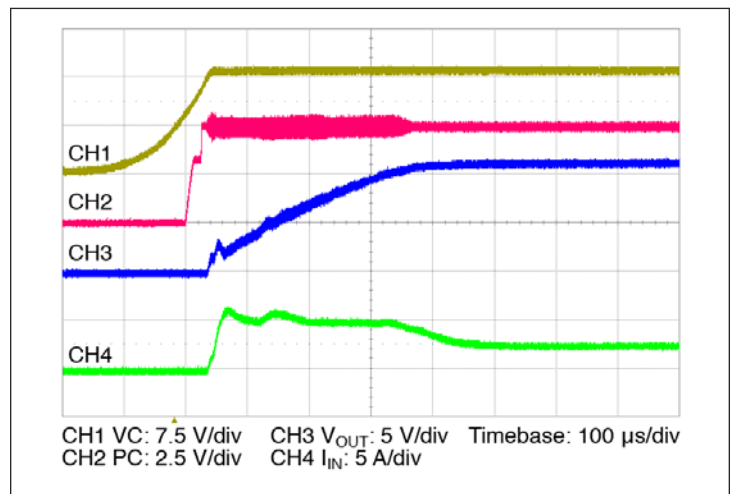

Figure 14 — Start up from application of VC; V_{IN} pre-applied $C_{OUT} = 500 \mu$ F
- Stand Alone Operation (VC applied after V_{IN}): In this case the module output will begin to rise upon the application of the VC voltage (See Figure 14). The Adaptive Soft Start circuit (See Section 10) may vary the output rate of rise in order to limit the inrush current to its maximum level. When starting into high capacitance, or a short, the output current will be limited for a maximum of 900 µsec. After this period, the adaptive soft start circuit will time out and the module may shut down. No restart will be attempted until VC is re-applied, or PC is toggled. The maximum output capacitance is limited to 500 µF in this mode of operation to ensure a successful start.